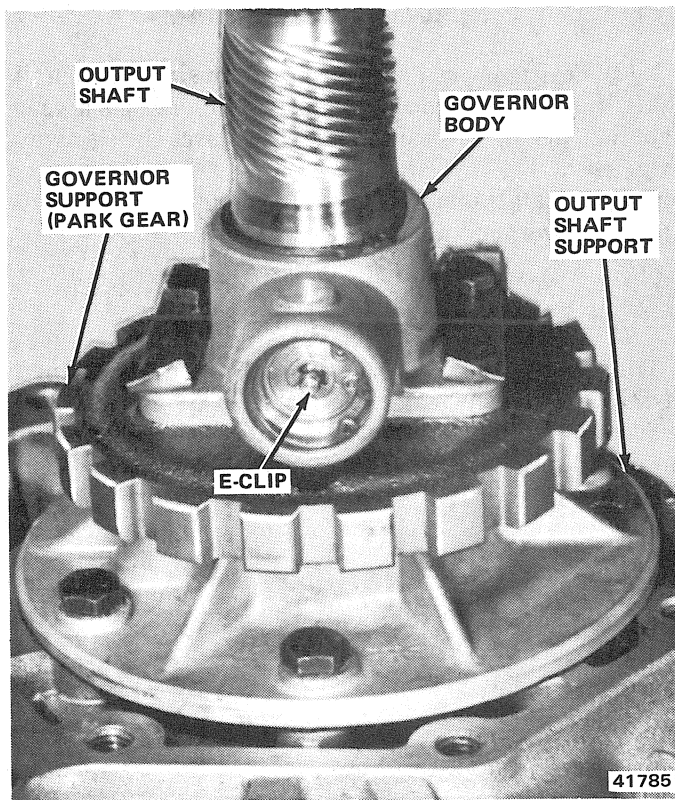

Fig. 2C-26 Governor Weight E-Clip Location
- (1) Raise vehicle.
- (2) Mark propeller shaft yokes for assembly alignment reference.
- (3) Disconnect front-rear propeller shafts at transfer case.
- (4) Disconnect speedometer cable at transfer case.
- (5) Place support stand under transmission converter housing.
- (6) Remove rear crossmember.
- (7) Disconnect parking brake cable at equalizer and disconnect exhaust pipe support brackets, if necessary.
- (8) Remove bolts attaching transfer case to transmission adapter housing and remove transfer case.
- (9) Remove bolts attaching adapter housing to transmission and remove adapter housing.
- (10) Rotate transmission output shaft until governor weight faces downward (fig. 2C-26).
- (11) Remove E-clip from weight end of governor valve shaft (fig. 2C-26).